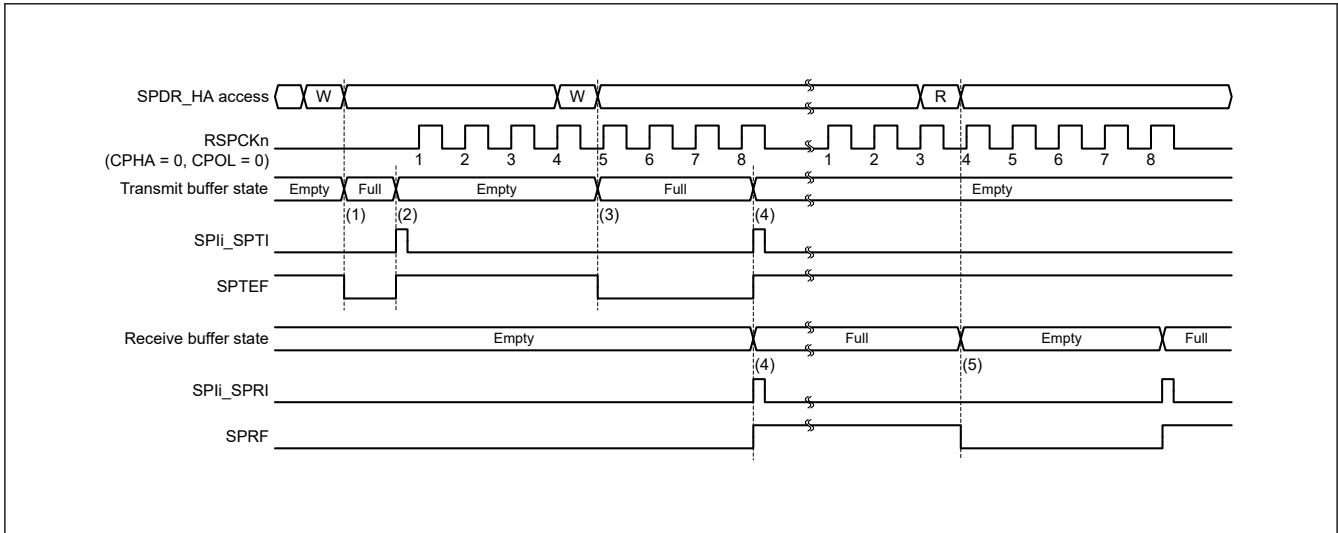
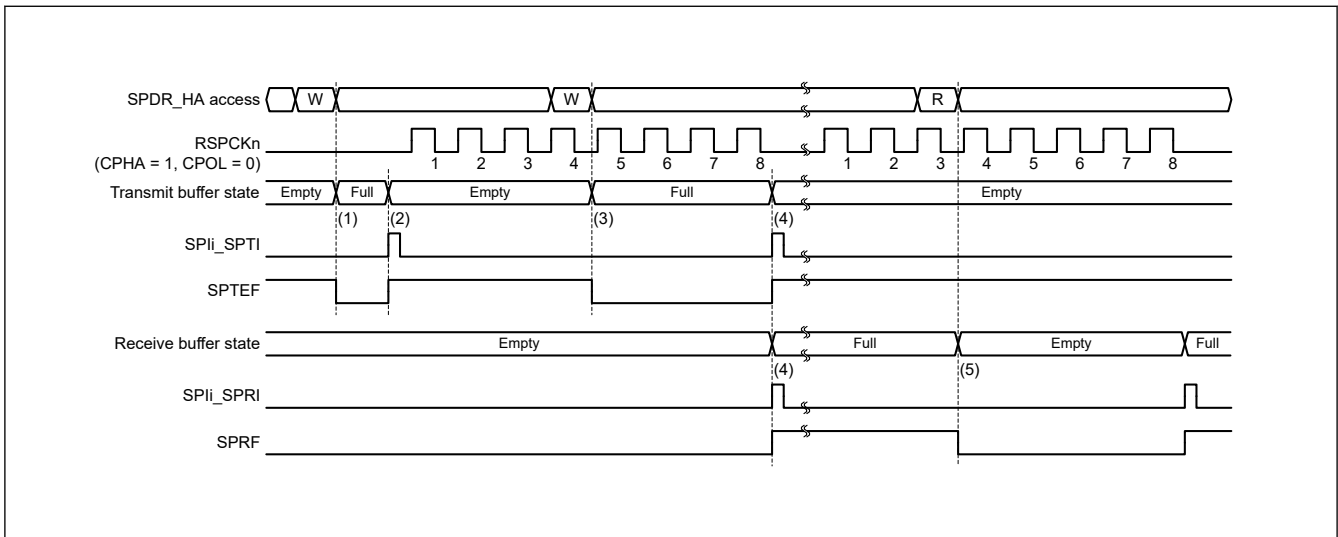

Figure 27.26 Operation example of the SPIi_SPTI and SPIi_SPRI interrupts when CPHA = 0 and CPOL = 0 in master mode
Figure 27.27 Operation example of the SPIi_SPTI and SPIi_SPRI interrupts when CPHA = 1 and CPOL = 0 in master mode
Figure 27.26 and Figure 27.27 show examples of operation of the transmit buffer empty interrupt (SPIi_SPTI) and the receive buffer full interrupt (SPIi_SPRI). The SPDR_HA register accesses shown in these figures indicate the conditions of access to the register, where W denotes a write cycle and R a read cycle. In Figure 27.26, the SPI performs an 8-bit serial transfer when SPCR.TXMD bit is 0, the SPCMD0.CPHA bit is 0, and the SPCMD0.CPOL bit is 0. In Figure 27.27, the SPI performs an 8-bit serial transfer when SPCR.TXMD bit is 0, the SPCMD0.CPHA bit is 1, and the SPCMD0.CPOL bit is 0.
The operation of the SPI at timings (1) to (5) in Figure 27.26 and Figure 27.27 is as follows: